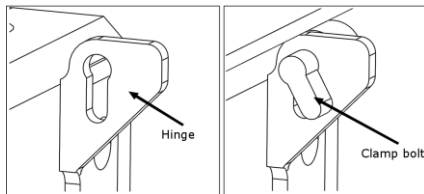

Fig 1A. Clamp bolt and hinge
- A. Pull the button (5) from the lock and turn the lid (B) toward up.
- B. Raise and remove the knives by removing the knives support (1) .
- C. Turn the lid cover slightly downwards in order to match the clamp bolt of the lid and the hinge slot (See Fig. 1A).